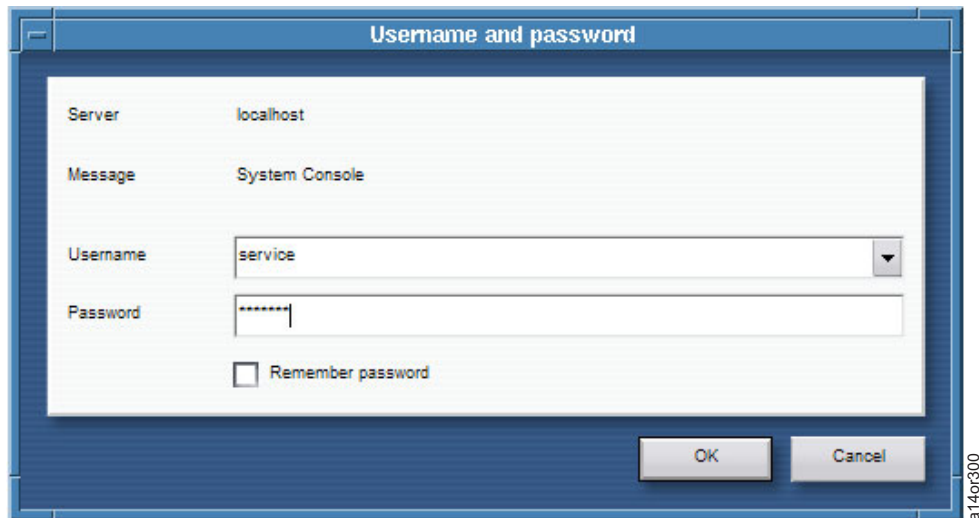

Figure 2-53. Login Username and Password Screen
2. From the Main Menu, select **System Console Actions** —> **Console Configuration Utility**. You see the Username and password screen shown in Figure 2-53 on page 2-40.
- From the Main Menu, select **System Console Actions → Console Configuration Utility**. You will see the Username and password screen as shown in Figure 2-53 on page 2-40
2. From the Main Menu, select **System Console Actions → Console Configuration Utility**. You will see the Username and password screen as shown in Figure 2-53 on page 2-40